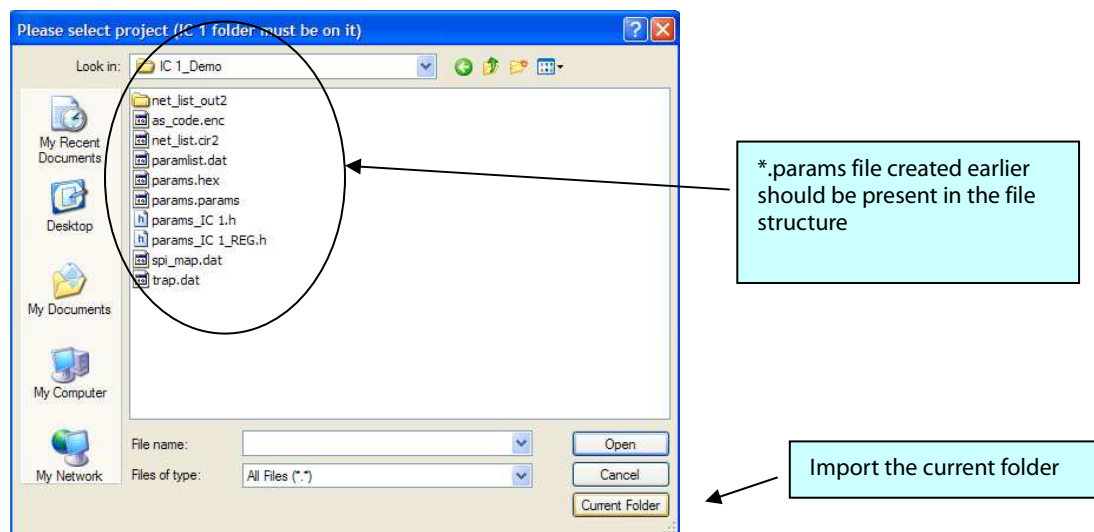

Figure 46: Import SigmaStudio
- Files missing. Please import SigmaStudio project to flow: the SigmaStudio set of files is missing, please import them as shown in Figure 46.